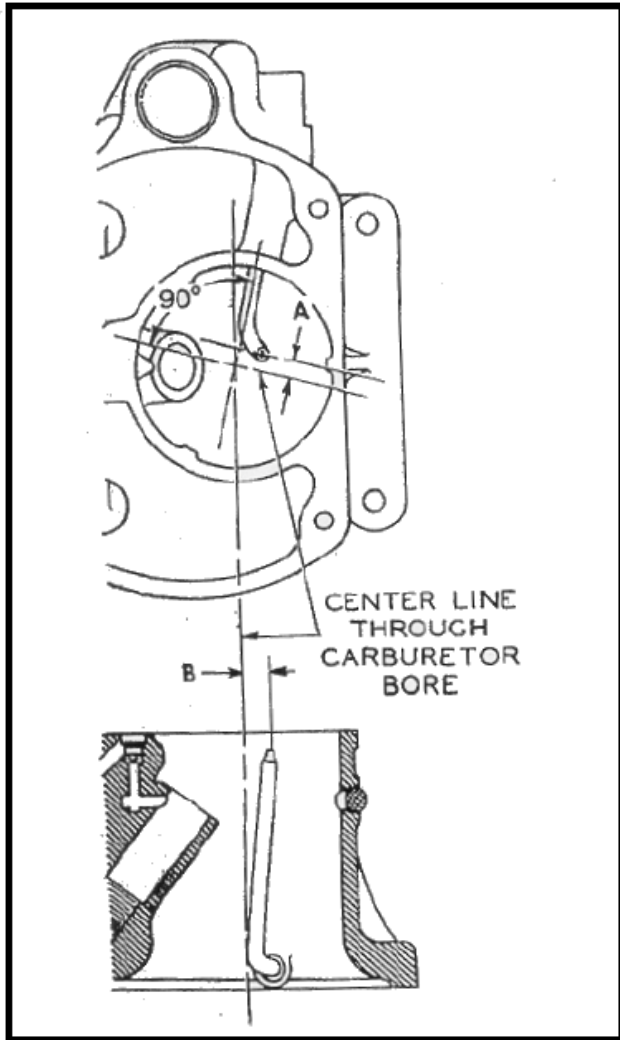

Figure 3-2. Pump Discharge Tube Location
3-3. ACCELERATING PUMP TEST. (See figure 3-2.)
- a. Carefully bend the pump discharge tube to satisfy the dimensions shown in figure 3-2. Distance "A" should be 11/64 inch and distance "B" should be 1/4 inch.